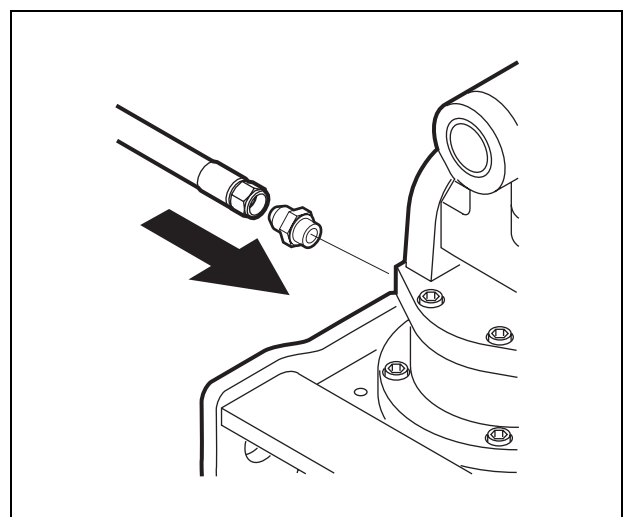

Fig. 19 Assemble the hydraulic hose for the saw function from the main valve to the rotator
6. Assemble the hydraulic hose for the saw function from the main valve to the rotator. *See Fig. 19.*